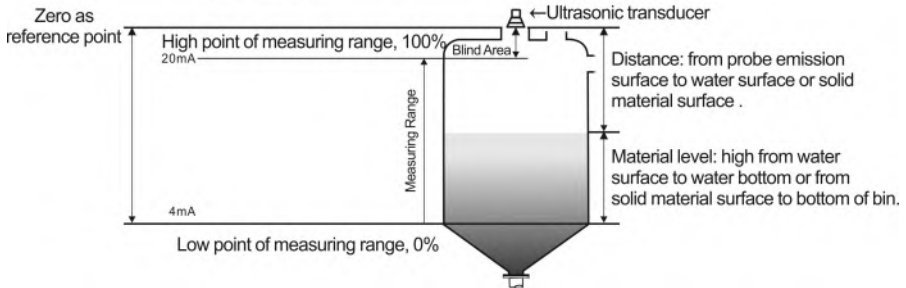

Fig. 1.2 Diagram of Material Measurement Level
② Under material level measuring mode, the positions of **reference zero point**, **maximum of measuring range** and **minimum of measuring range** are as shown in Fig. 1.2.